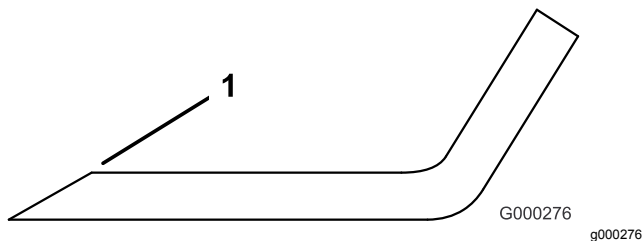

**Figure 125**
2. Examine the cutting ends of the blade carefully, especially where the flat and curved parts of the blade meet (Figure 125).
**Note:** Because sand and abrasive material can wear away the metal that connects the flat and curved parts of the blade, check the blade before using the machine. If you notice wear, (Figure 125), replace the blade.